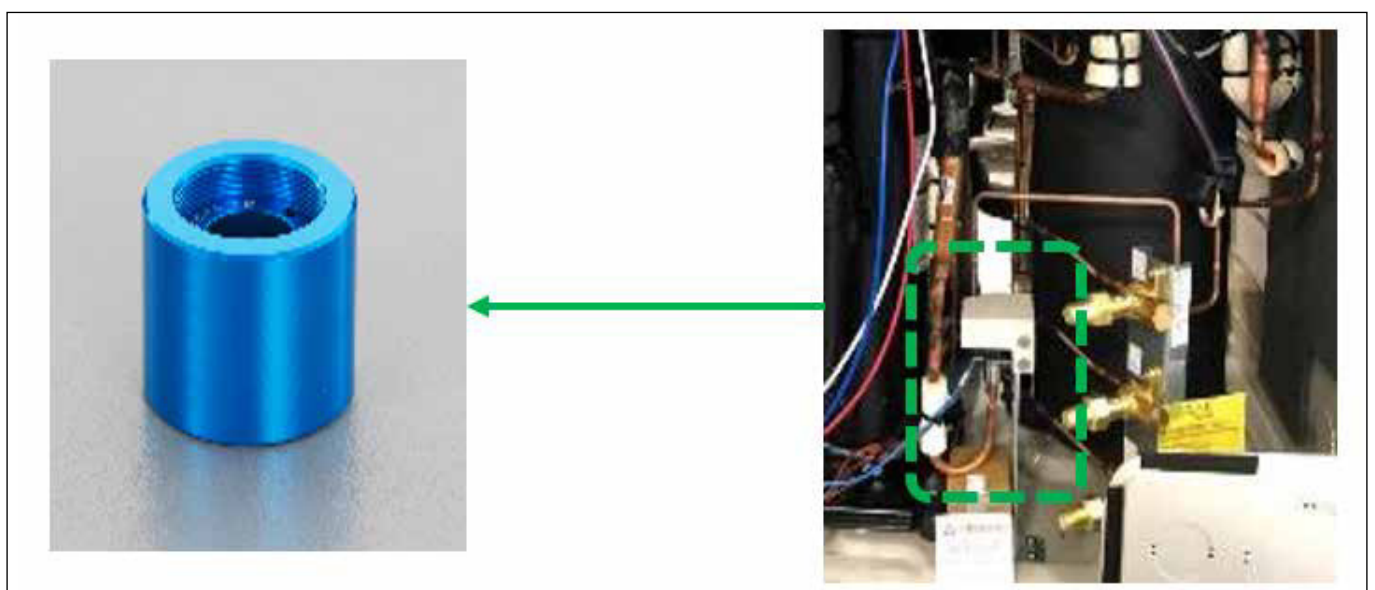

Fig. 6
- Power off the unit, then dip SW5-7, Turn ON dip SW5-8 (UP) and turn on power. All electronically operated valves and electronic expansion valves will be fully closed (see fig. 6)